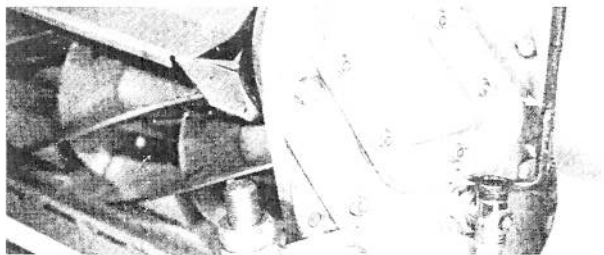

Figure 26
2. Rotate reel, engage Reel Adjustment Wrench, Part No. 42-3330, (Fig. 26) with Reel Adjusting Screws (Fig. 25) and adjust both ends of bedknife so they are in light contact with reel blades. Reel should rotate freely after adjustment. High spots
Note: A light contact adjustment between reel and bedknife will produce best cutting results. If units are adjusted at proper intervals only a minute adjustment will be required. Use the points in the Adjusting Wrench as index points so adjustments can be made in small increments. One sixth turn in either direction moves the bedknife approximately .003 inch (0.076 mm) toward or away from reel (Fig. 26).